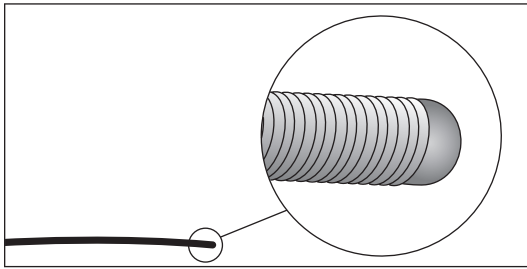

Figure 21
3. Examine tip of placement wire after removal to ensure wire has not been altered (refer to Figure 21).